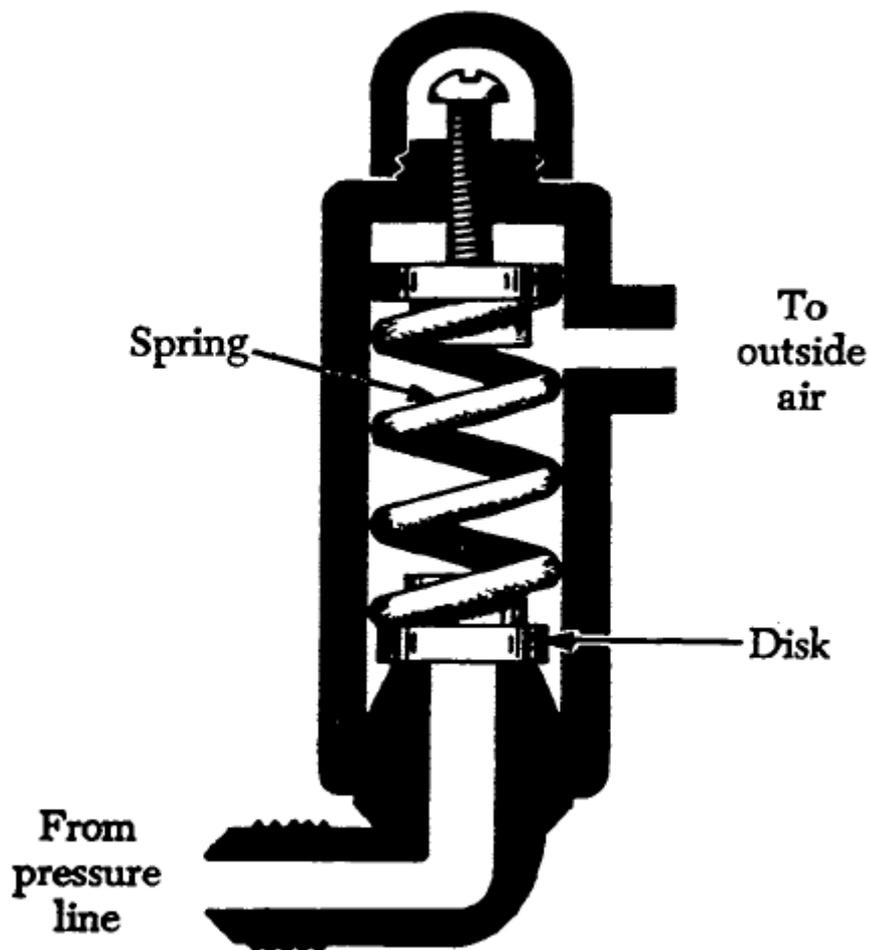

FIGURE 8-35. Pneumatic system relief valve.
3. At normal pressures, a spring holds the valve closed (figure 8-35), and air remains in the pressure line.